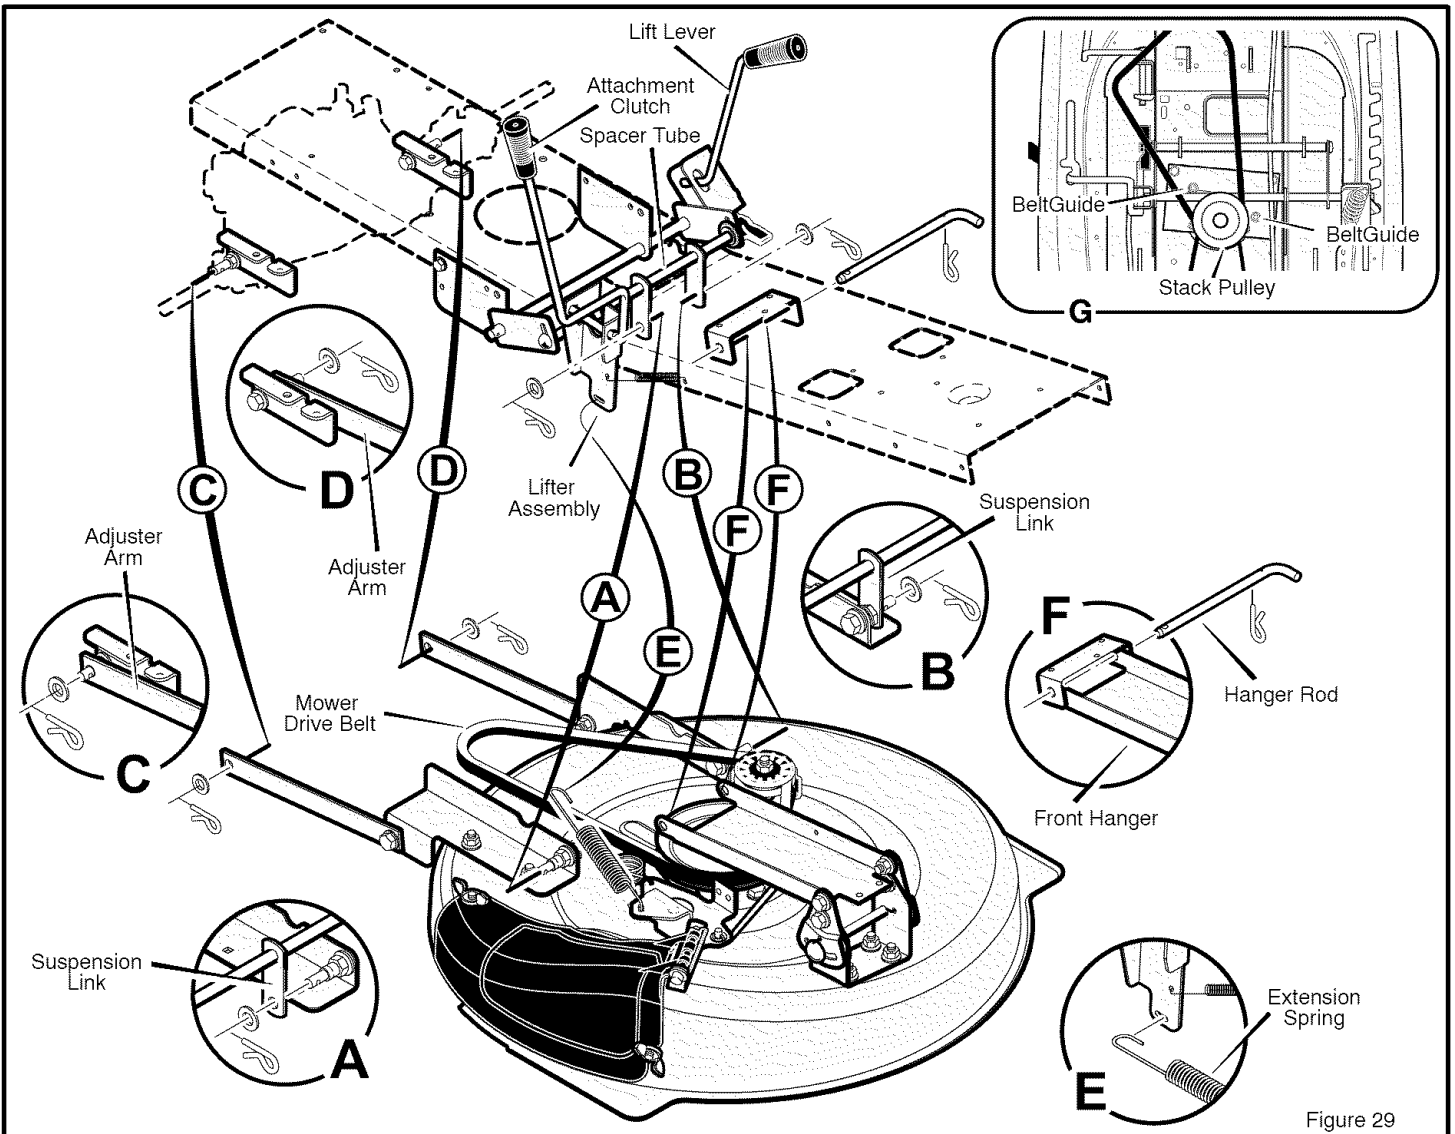

Figure 29
3. Remove the hair pins and the washers from the **rear suspension arms** (Figure 29). See illustrations "C" and "D".